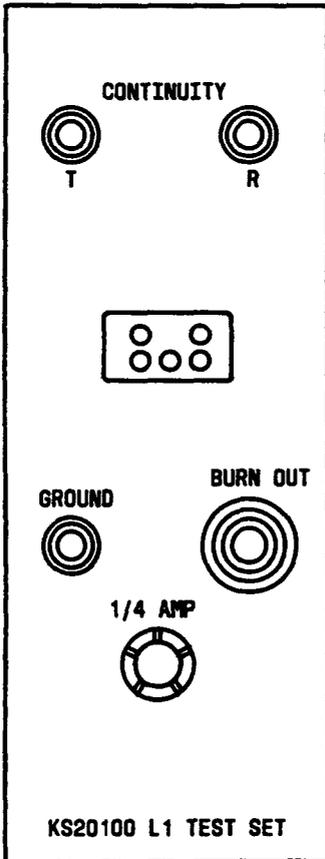

Figure 44—KS-20100, L1 Test Set
5.01 The KS-20100 test set (Figure 44, 45, and Table R) is used for testing 3- and 4-type